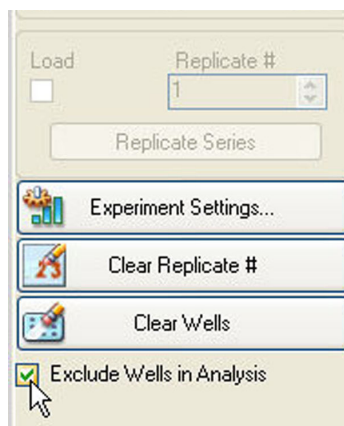

Figure 52. Exclude Wells in Analysis checkbox at bottom of the pane.
3. Click **Exclude Wells in Analysis** (Figure 52) to exclude the selected wells. This checkbox is at the bottom of the Plate Editor controls on the right side of the window.